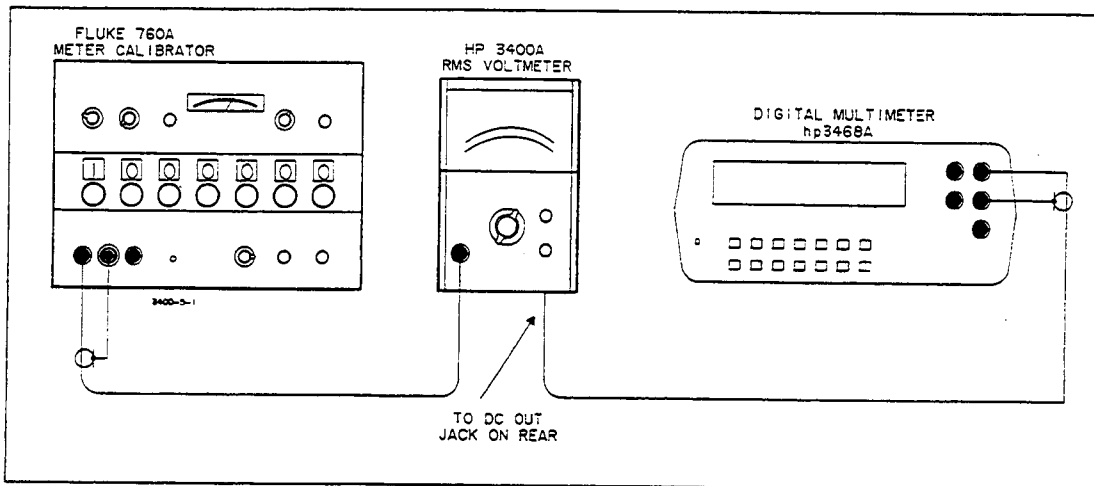

Figure 5-1. Accuracy, Linearity, and DC Output Test Setup
5-8. The accuracy, linearity, and dc output test set-up is illustrated in Figure 5-1. A Meter Calibrator Fluke Model 760A and a Digital Multimeter -hp- Model 3468A/B are required for this test.
- a. Connect test setup illustrated in Figure 5-1.
- a. Connect test setup illustrated in Figure 5-1; omit the DC Voltmeter.